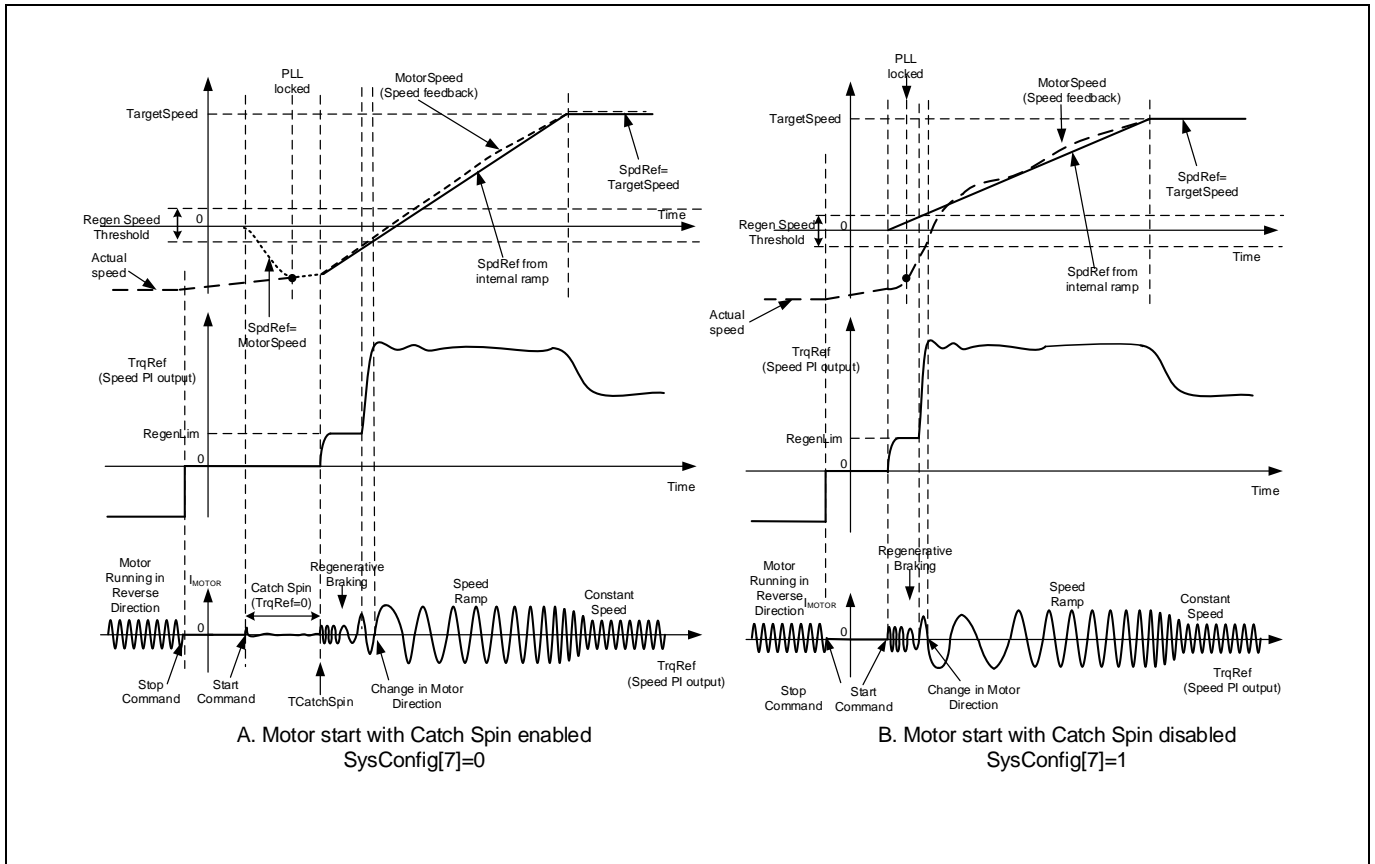

Figure 18 Reverse Catch Spin - Motor start with/without catch spin
If the motor is spinning in the opposite direction as desired, then the catch spin sequence is termed as 'Reverse Catch Spin'. Figure 18 (A) shows an example of 'Reverse Catch Spin'. In this example, at the start command, the motor is already spinning (in the opposite direction). During the catch spin sequence, no motoring current is injected. After the TCatchSpin time has elapsed, the motor is still spinning in opposite direction at a speed higher than Regen Speed Threshold (RegenSpdThr), thus an injected torque, limited by the value defined in RegenLim parameter, forces the motor to decelerate via regenerative braking. Once the speed of the reverse spinning motor falls below Regen Speed Threshold (RegenSpdThr), the injected torque is limited by MotorLim (RegenLim<=MotorLim). The injected torque forces the motor to come to a stop and start accelerating in the desired spin direction, following the speed ramp reference to reach the set target speed.
If catch spin is disabled, normal speed control starts immediately after the start command, without waiting for PLL to be locked. Usually the control would still be able to start a spinning motor, but motor speed may not increase/decrease seamlessly. As shown in Figure 18 (B), after the start command, the motor is still spinning at a